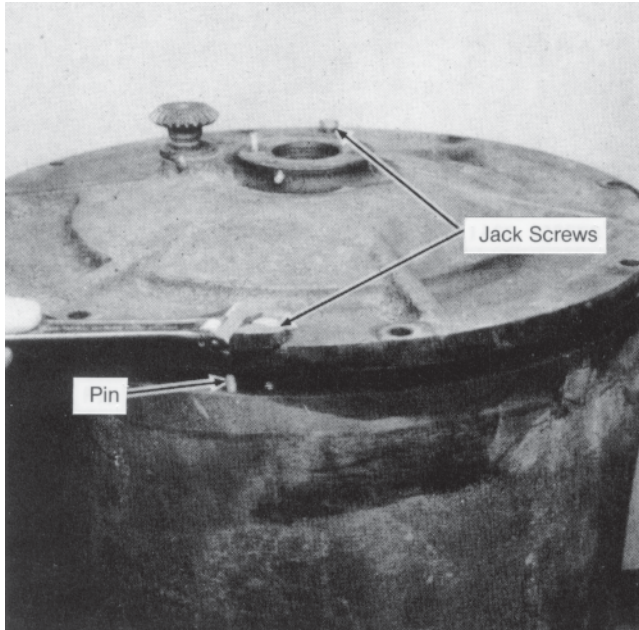

Figure 21 –Removing Mechanism Cover
- Take out all of the cover screws. Place two (2) cover screws into the tapped holes as shown. Using the screws as jacks, remove the cover, Figure 21.